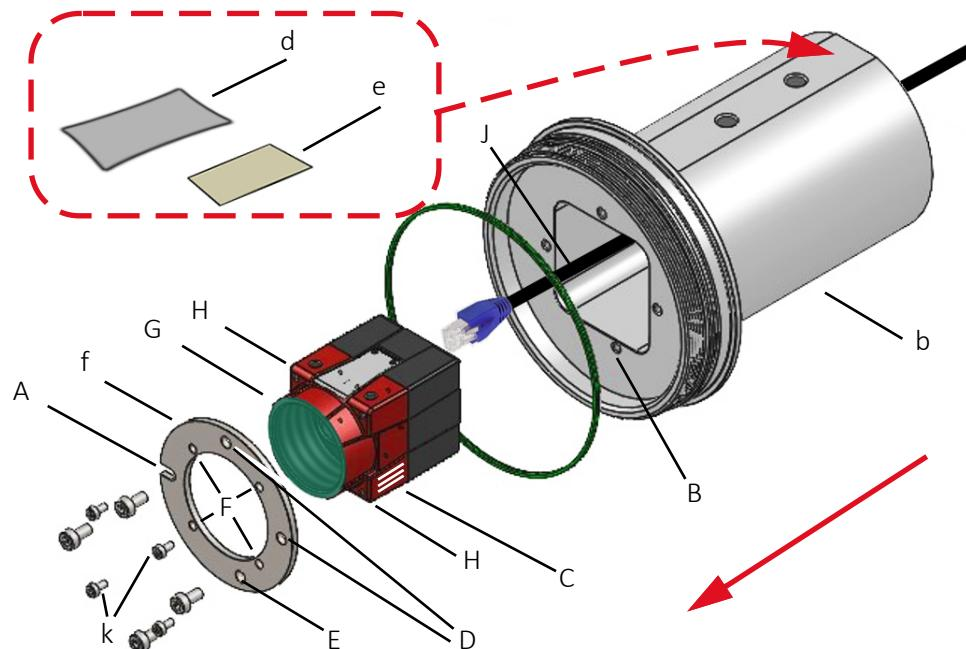

Figure 6: Connecting and mounting the camera
11. Feed a GigE interface cable (J) through the Camera Tube (b).
15. Put the camera and Camera Mounting Ring (f) into position as shown in Figure 6. For lateral mounting of the Camera Tube, rotate the parts accordingly.
Ensure that the M3 mounting hole (E) is located off the center to match M3 mounting thread (B) as shown in Figure 6.
16. Feed the camera's lens mount (G) through the Camera Mounting Ring (f).
17. Rotate the Camera Mounting Ring (f) to the camera to align the mounting holes of the Camera Mounting Ring (f) and the camera's mounting threads (H).
18. Feed the 4 M2 x 4 mounting screws (k) through the mounting holes (F) into the camera's mounting threads (H) and tighten at 0.18 Nm maximum torque.
19. Feed the 4 M3 × 6 mounting screws (i) through the mounting holes into the mounting threads (B in Figure 6) and tighten at 0.6 Nm maximum torque.